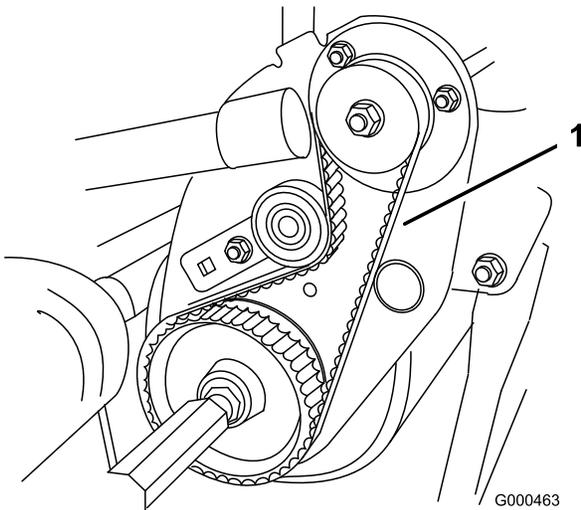

Figure 45
2. Check tension by depressing belt (Figure 45) at mid span of pulleys with 4 ± 1 lb of force. Belt should deflect $3/16$ to $5/16$ inch (4.8 to 7.9 mm). If the deflection is incorrect, proceed to next step.